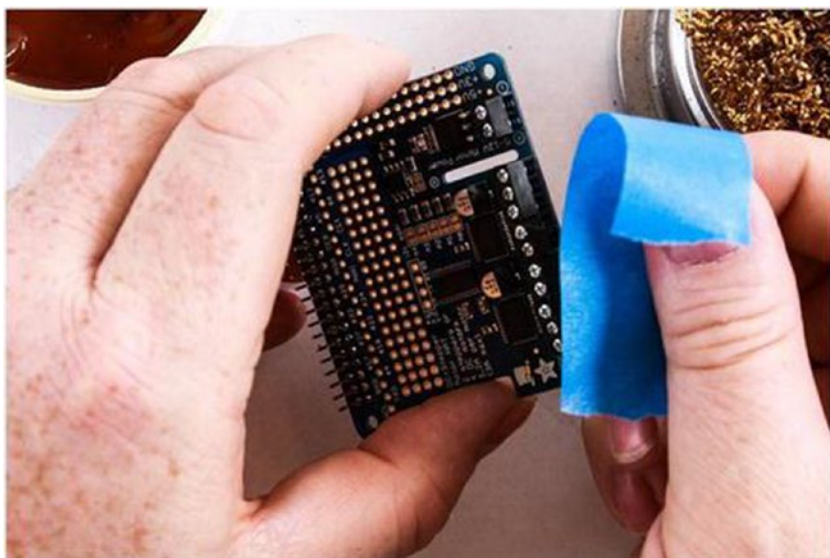

Figure 6-12. *Tape helps hold the terminal blocks on the board while you turn it over to solder them into place*
9. Use tape to hold the terminals in place while you flip the board over (see Figure 6-12).